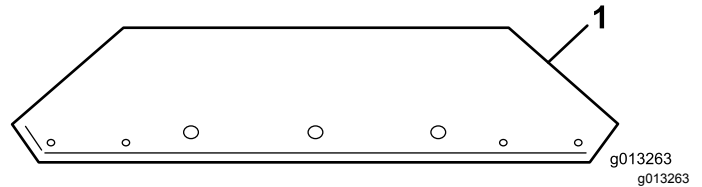
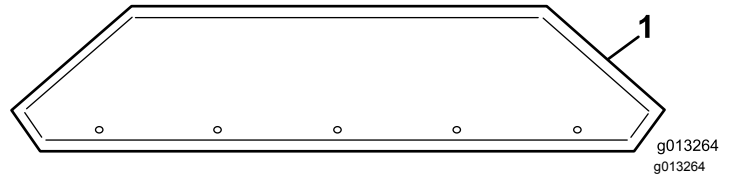

Figure 10
Figure 11
1. Remove the hopper extensions from the box and identify the front and the rear (Figure 10 and Figure 11).